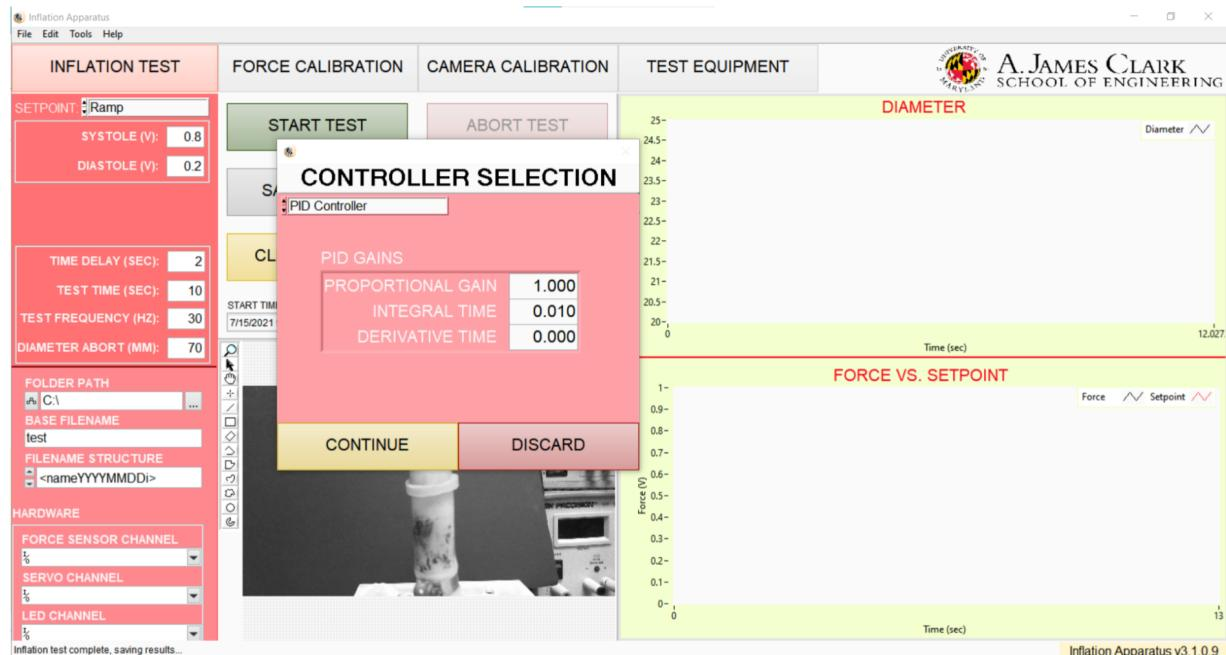

Figure 7: The controller choice window.
2. Edit > Choose Controller: Choose a new controller for the inflation test. A window will be displayed and request the user to input controller parameters (Fig. 7).